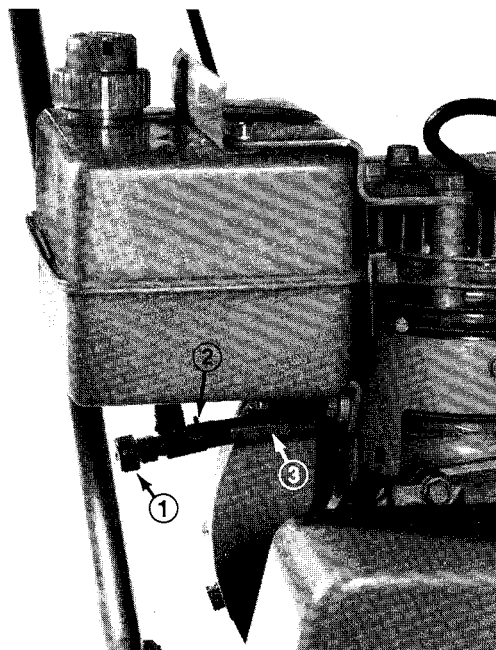

Figure 25
1. Close fuel shut off valve located under engine (Fig. 25).
3. Loosen hose clamps securing fuel line to valve and slide line off valve. (Fig. 25)